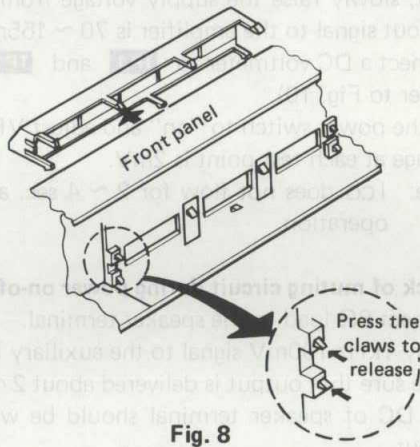

Fig. 8
1. Release the 7 ornament claws from the front panel, and take out the ornament. (Fig. 8)